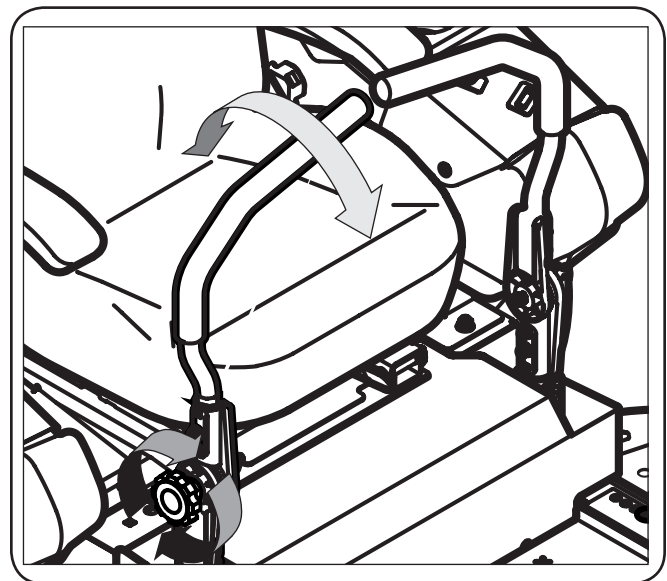

Figure 3-8
1. Loosen the control lever knob to unlock the drive control levers. See Figure 3-8.